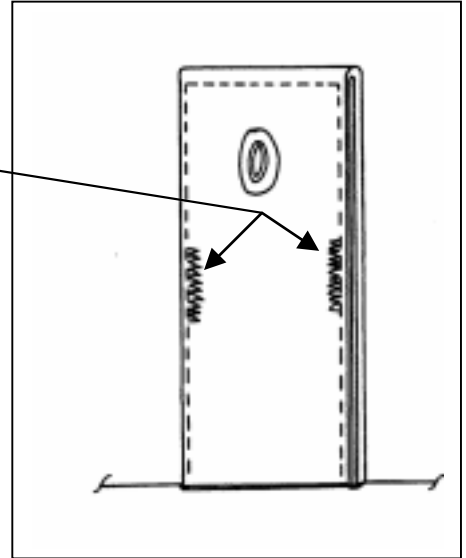

FIGURE 1
1. Unpick and remove bartacks carefully. [Fig 1].